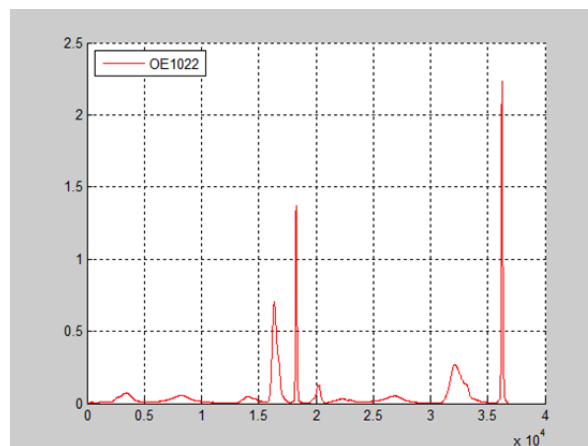

Fig.100 Spectrum Curve measured by OE1022D
4. Start the spectral measurement and collect data from the data collection platform. Then, you will get a spectral curve as shown in Fig.100